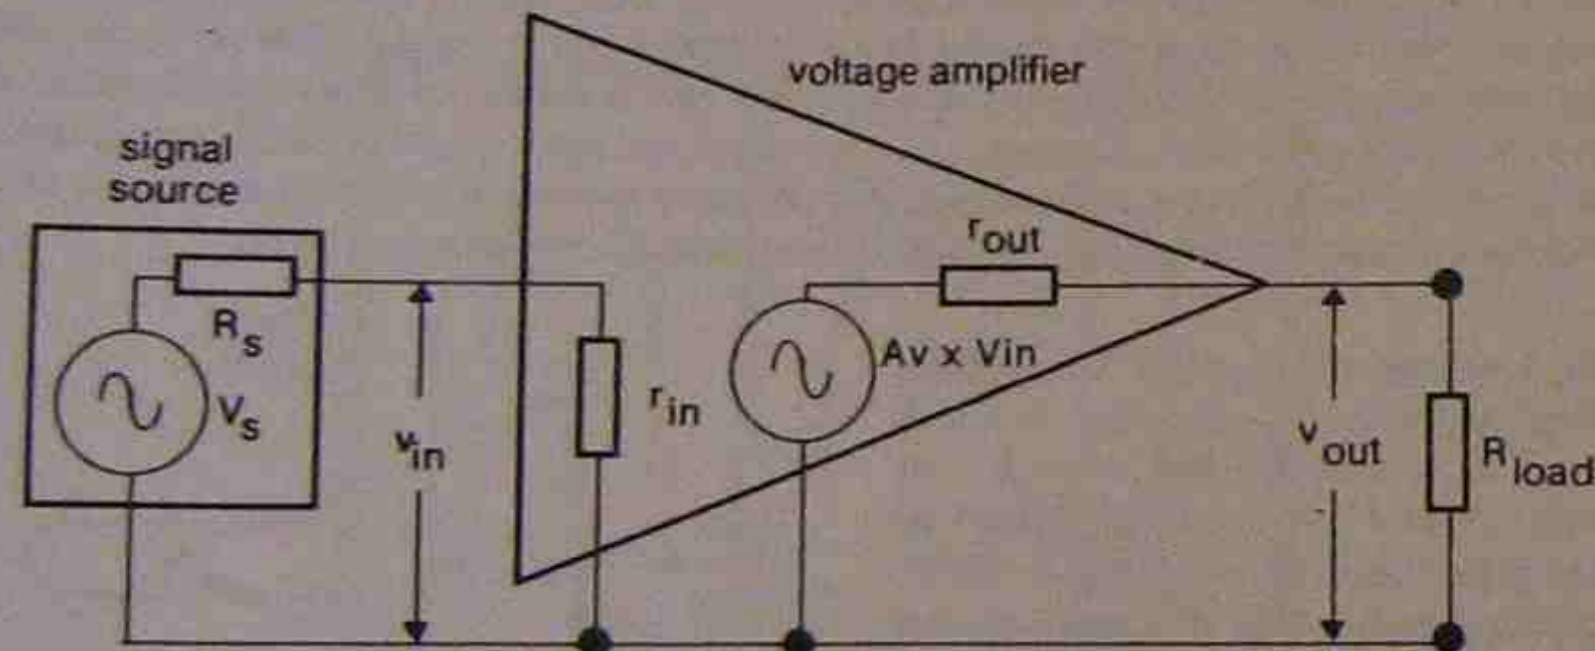

Fig.3: Equivalent circuit of a voltage amplifier
Fig.3 shows the equivalent circuit of a voltage amplifier connected to a signal source and a load. Note that this diagram can be modified to describe a power amplifier or a current amplifier.
- **Voltage gain ( $A_v$ )** is the ratio of the output voltage of an amplifier to its input voltage. In Fig.3, the voltage gain is shown by the internal voltage generator labelled  $A_v \times V_{in}$ . This generator represents that part of the amplifier circuit causing the input signal to be amplified.